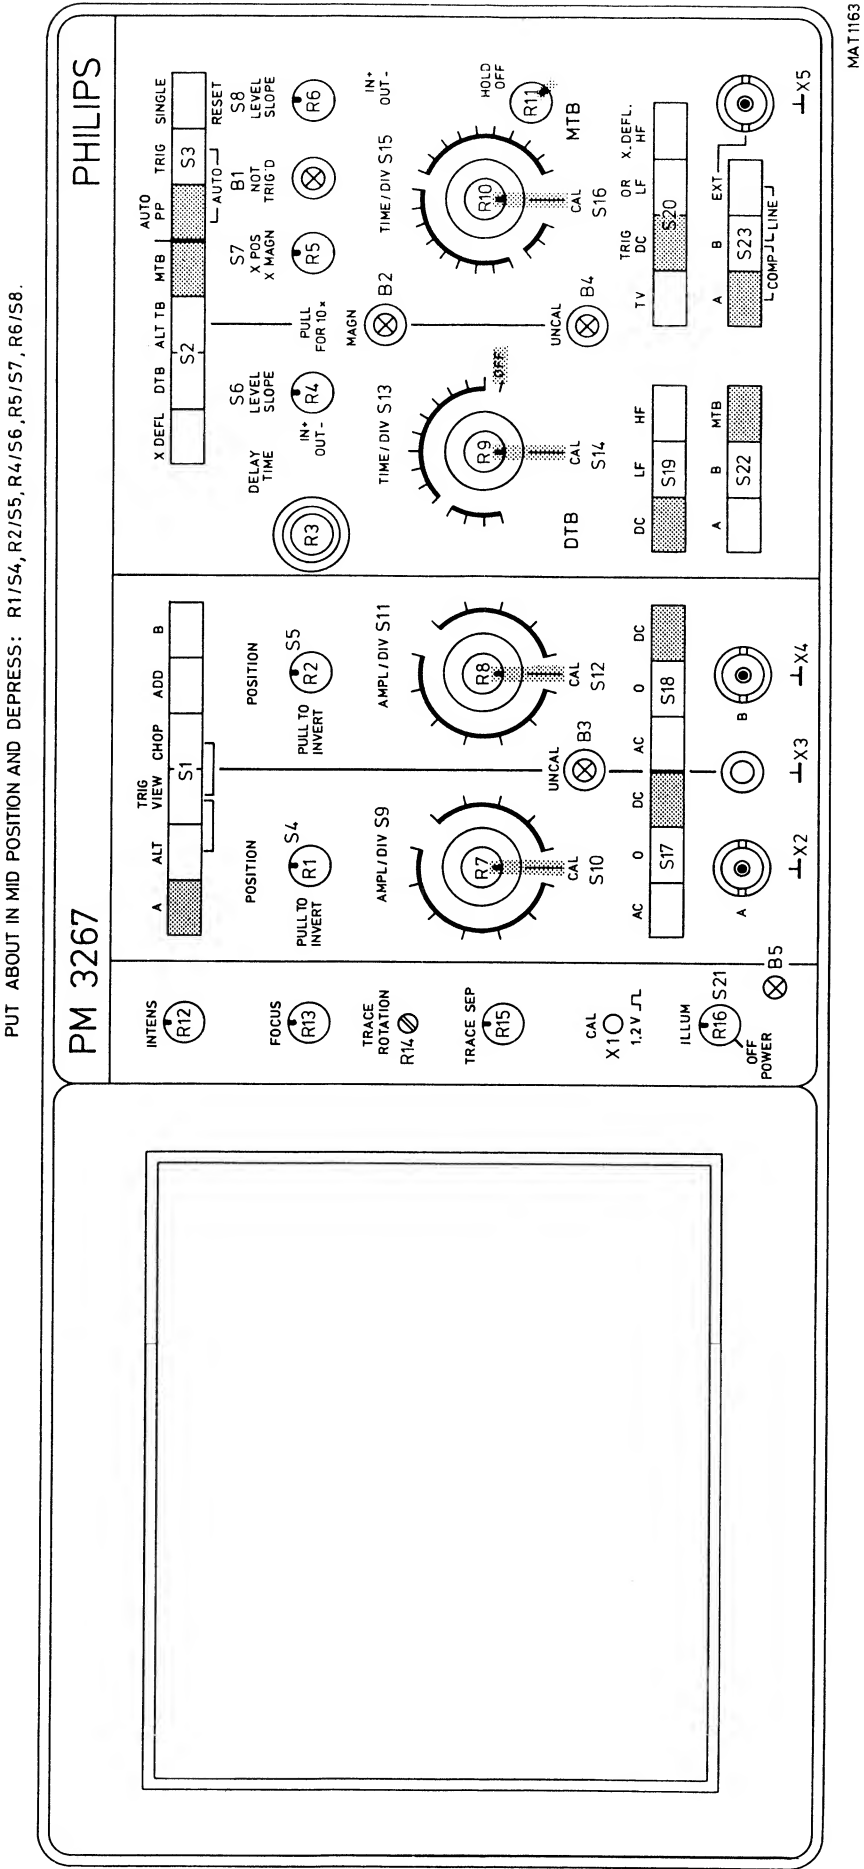

Fig. 4.1 Preliminary settings
- Depress the controls as indicated in figure 4.1.